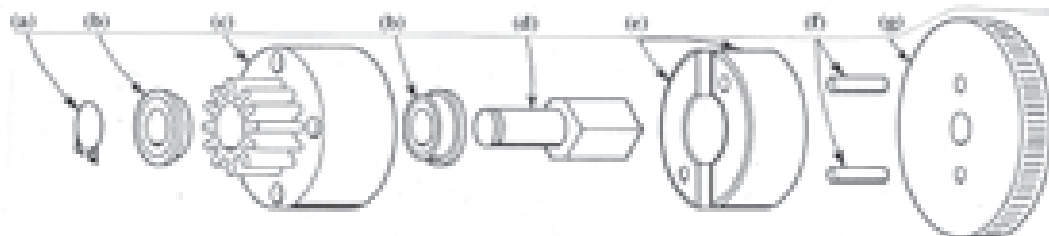
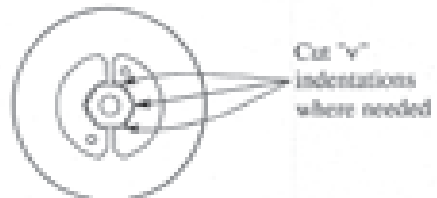

fig. 1
fig. 2
Trim them properly by just cutting small "v" indentations inside your clutch shoes where they touch the edges of the hex portion of the clutch nut (fig. 2).
STEP 4 Slip the two clutch shoes (e) onto the pins in the direction shown (fig. 1, fig. 2).